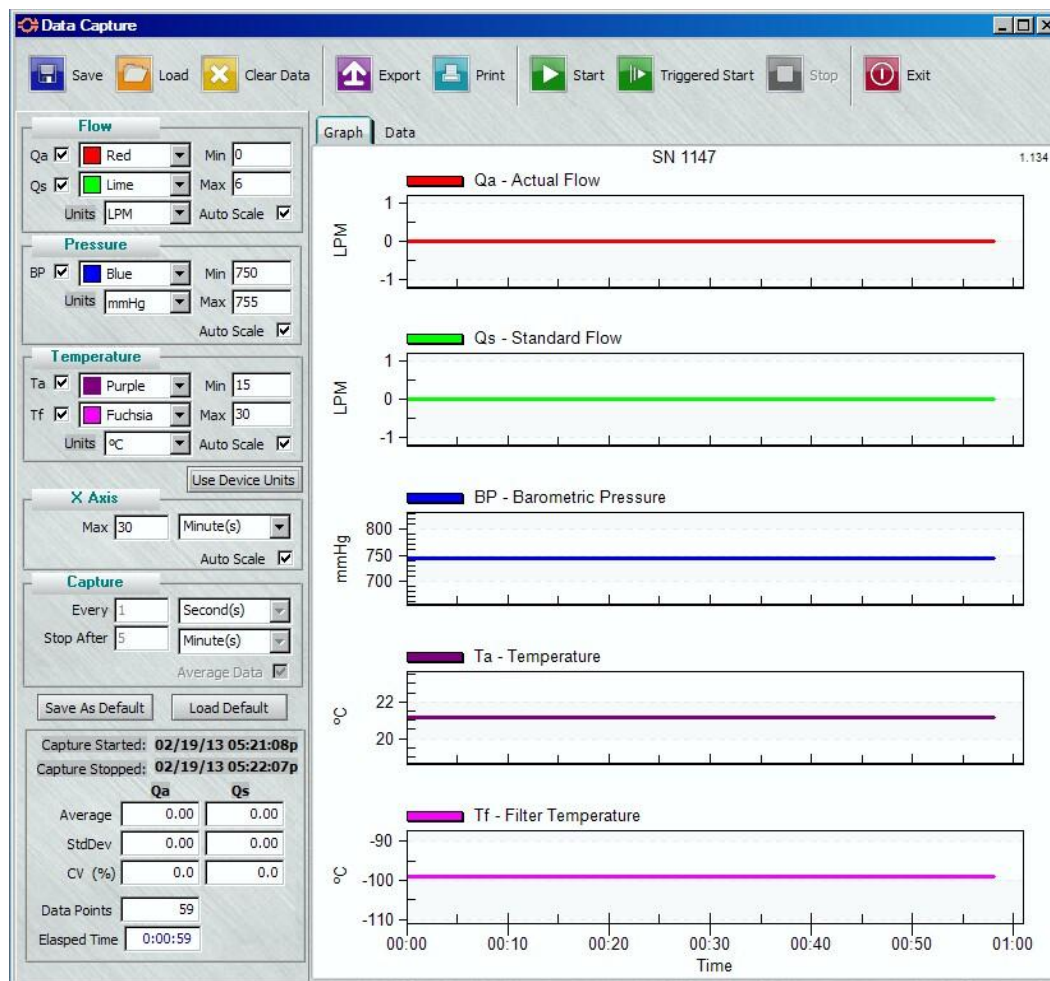

Figure 1. Example of the Capture Data Stream screen
In order to appreciate all the information that can be provided by your BGI Venturi Prover calibrator, Figure 1 will be of considerable assistance.
3.0 Graph Functions (Figure 1, page 3)